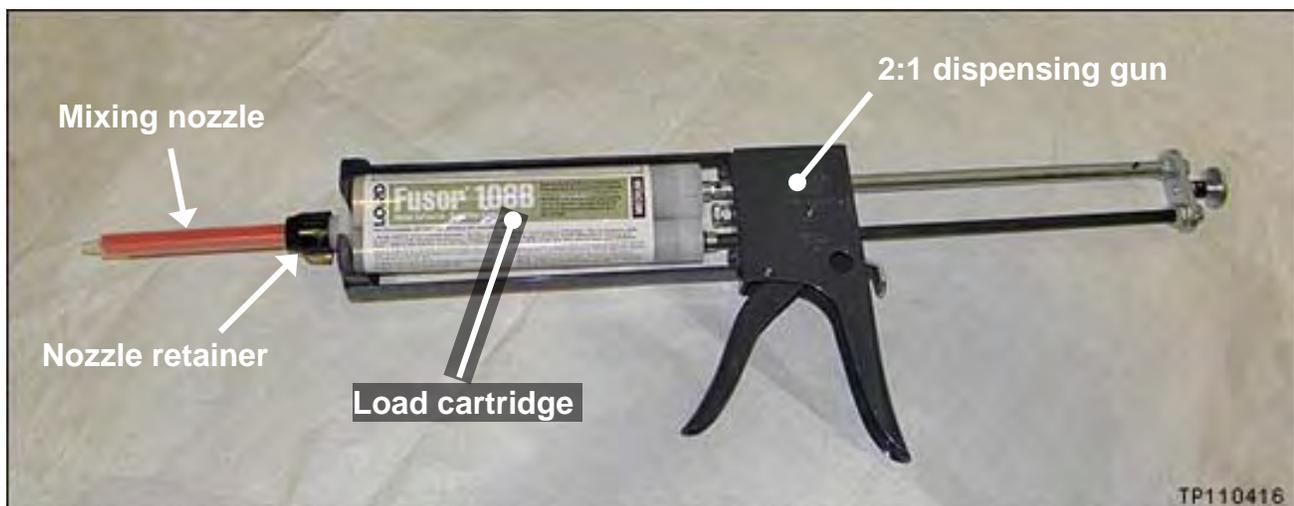

Figure RB21
25. Prepare for application of LORD Fusor® 108B (P/N 999MP – 108BP) structural adhesive (see Figure RB21 and RB22).
- Make sure the nozzle retainer is installed (see Figure RB21).